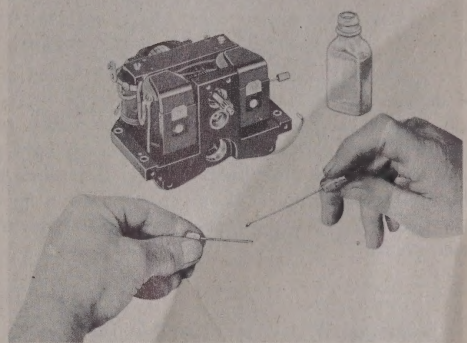

Figure 277 — Oiling Hinge Pins
12. (See figure 247.) Put the clutch magnet armature assemblies (1) in place, and insert the hinge pins (3) with the knob attached through the clutch magnet frames (4) and armature assemblies. Place one drop of light oil on the hinge pin as it is inserted (figure 277). If these magnet armatures and the thrust plugs attached to them were not replaced, it is important to get the armature with the single scribe mark on the side of the frame having the single scribe mark, and the one with the double scribe mark on the opposite side where the double scribe mark appears. This procedure will make the adjustment for the proper torque much easier when this operation is performed.